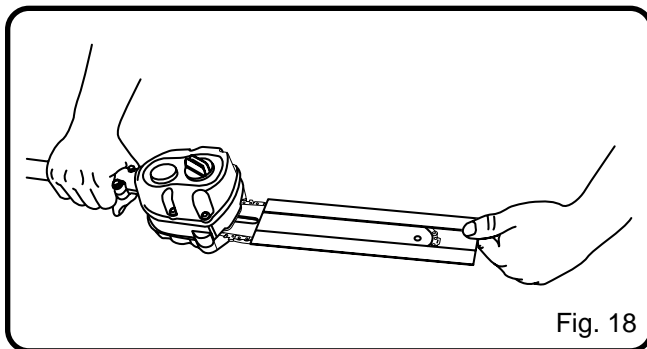

Fig. 18
- Before storing the unit, allow the engine to cool. Always place the sheath on the saw bar when transporting or storing your pole pruner. The sheath is a snug fit and must be attached very carefully due to the sharp teeth on the saw chain. This is best done by grasping the sheath at one end, in the center portion of the sheath, and carefully sliding it over the chain. Use caution to avoid the sharp teeth of the chain. See Figure 18.